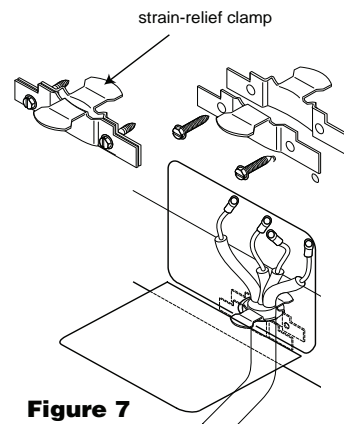

Figure 7
- 1 Follow the power supply kit manufacturer's Installation Instructions supplied with the strain relief clamp and install. See Figure 7.
- 2 Insert the end connectors for line 1, line 2 and neutral and tighten securely to the terminal block. See Figure 7.
- 3 Make sure all connections are tightened securely and replace the rear access cover. See Figure 7.
- 5 Make sure all connections are tightened securely and replace the rear access cover. See Figure 7.